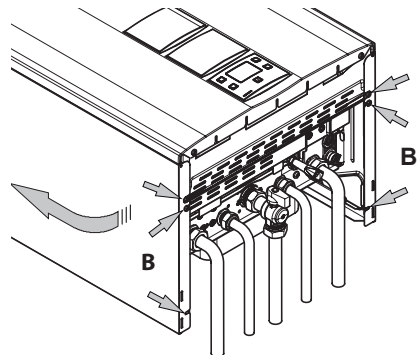

Figure 9.2
- Loosen screw B in Figure 9.2 and remove the side panels, pushing them upward to free them from the upper supports.